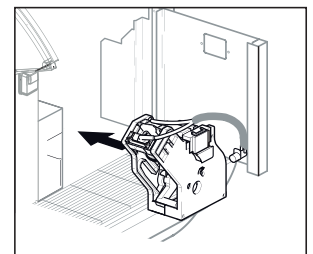

Fig. 2
- 5 Reinstall the brew group (screen will display “CLOSE SERV. DOOR”), then close the door. (Fig. 2)
- 8 Reinstall the brew group (screen will display “CLOSE SERV. DOOR”), then close the door. (Fig. 2)